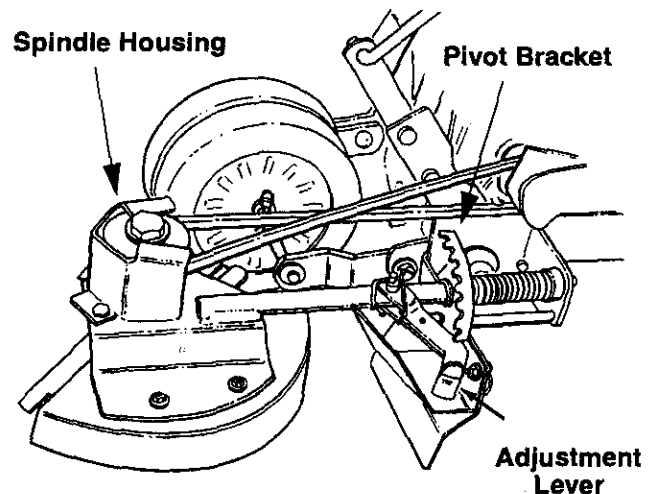
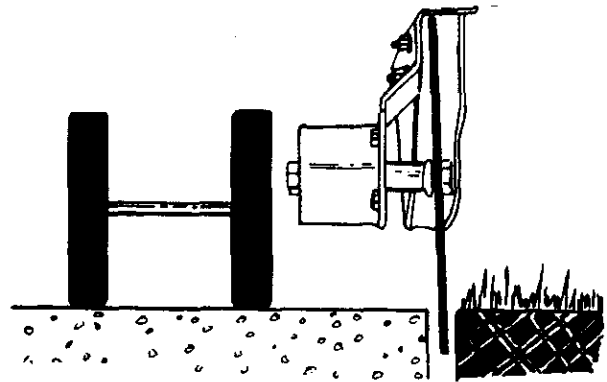
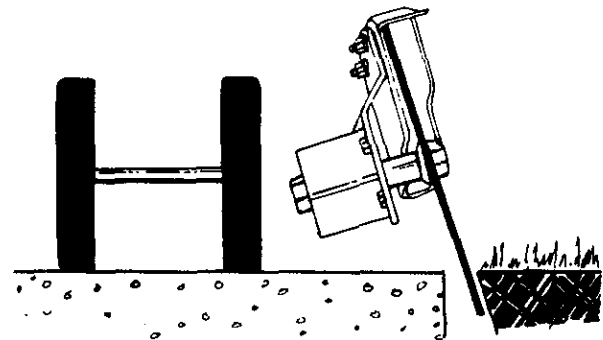

Figure 3
Figure 6
Figure 7
The cutting blade can be adjusted to eight positions from vertical to horizontal. To adjust, make certain the blade is disengaged, release the adjustment lever on the pivot bracket and rotate the spindle housing. Place adjustment lever in notch desired. See Figure 3.
1. To edge along driveway or sidewalk (vertically), set the adjustment lever (refer to Figure 3) in the second notch. See Figure 6.
2. To use your edger for trenching, set the adjustment lever (refer to Figure 3) in the first notch at the top. See Figure 7.